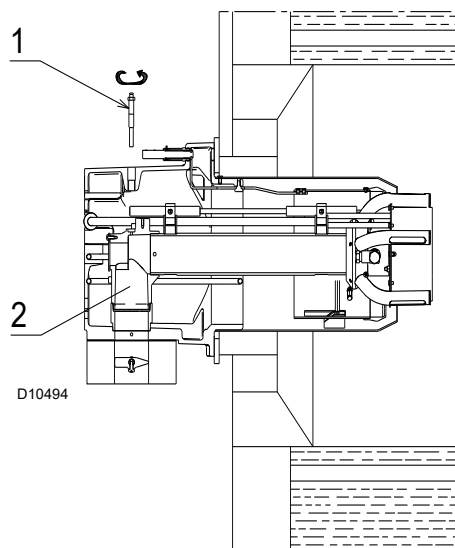

Fig. 17
- remove screw 1)(Fig. 17) and extract the nozzle assembly 2);